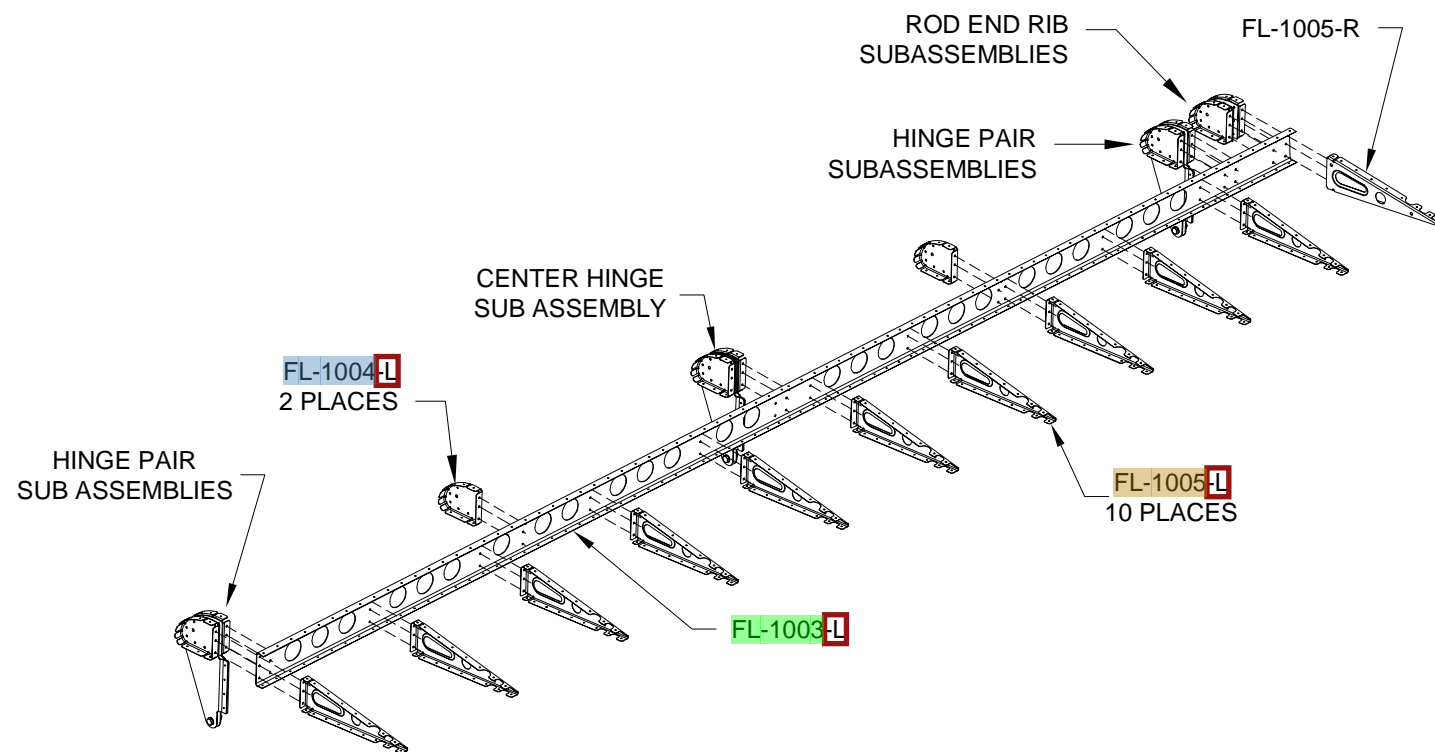

FIGURE 1: RIVETING RIBS AND SUB ASSEMBLIES
Step 1: Using AN470AD4-4 rivets, rivet the **FL-1004-L** Nose Ribs, **FL-1005-L** and **FL-1005-R** Main Ribs, rod end rib subassemblies, hinge pair subassemblies, and center hinge subassembly to the **FL-1003-L** Spar web as shown in Figure 1. The nose and main ribs on each end of the spar share rivets. Remove the hardware from all of the hinge brackets.